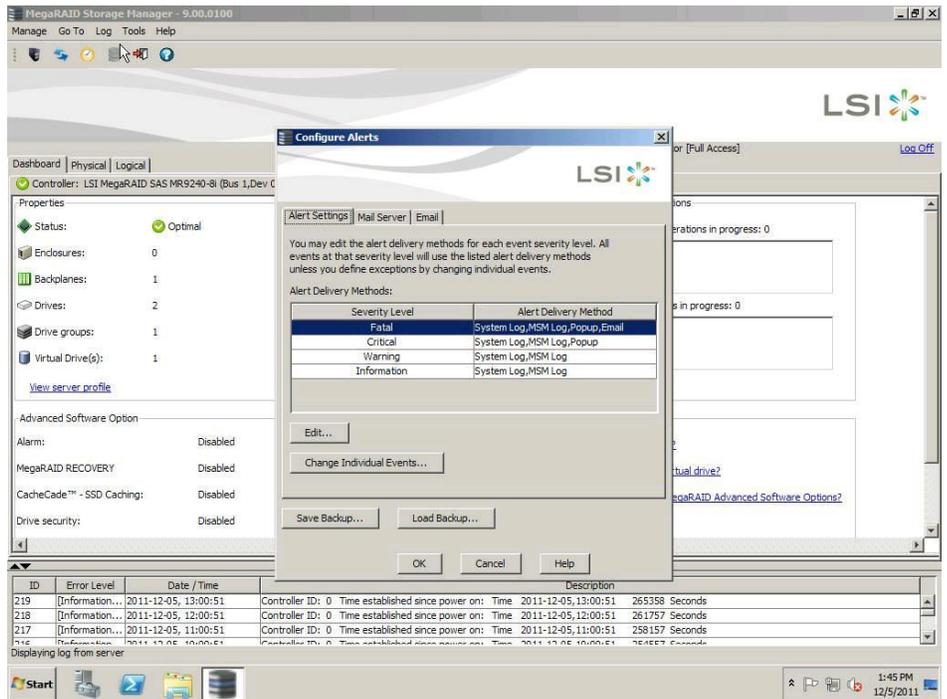

Figure 12. Displaying all events.
4. In the Alert Settings tab, you can set email alerts for all events based on severity level, or you can modify an alert setting for an individual event. (See Figure 12.)